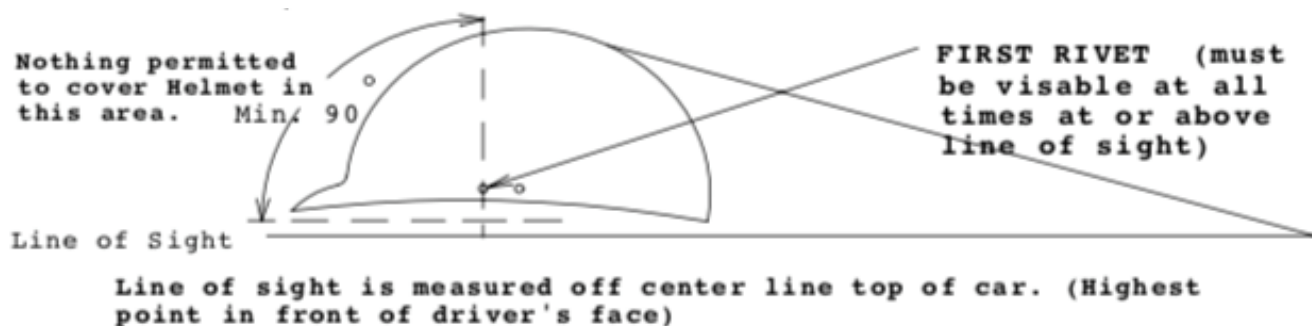

Figure 4
- The line of sight is defined as no part of the car, this includes the hatch foam on a Lay Back or forward foam on a Lean Forward, may be higher than the first rivet on the helmet, when the helmet is in race position. The first rivet must be visible at all times. See Figure 4.